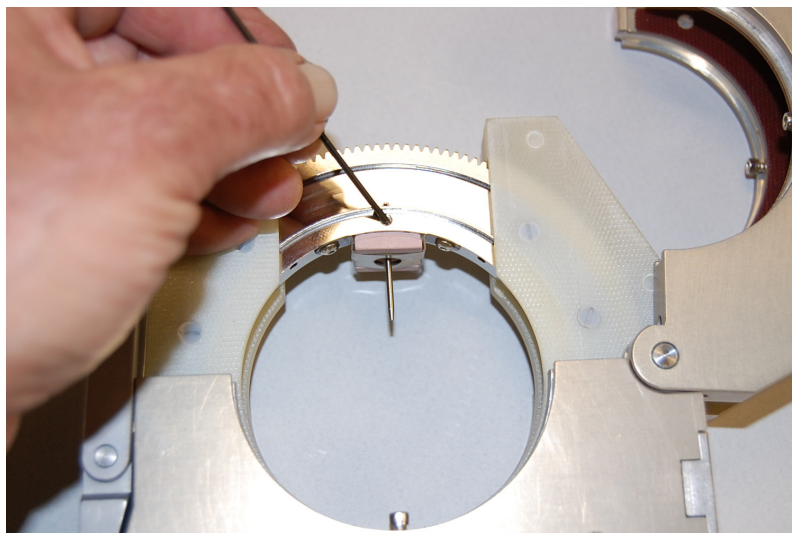

Fig. 13
- 7.3 Install the electrode from the rotor I.D. as shown in fig. 13. Tighten the electrode set screw when the electrode is fully seated against the electrode-stop roll pin. If the electrode is not fully seated against this pin, the arc gap between the electrode and the tube will be incorrect.